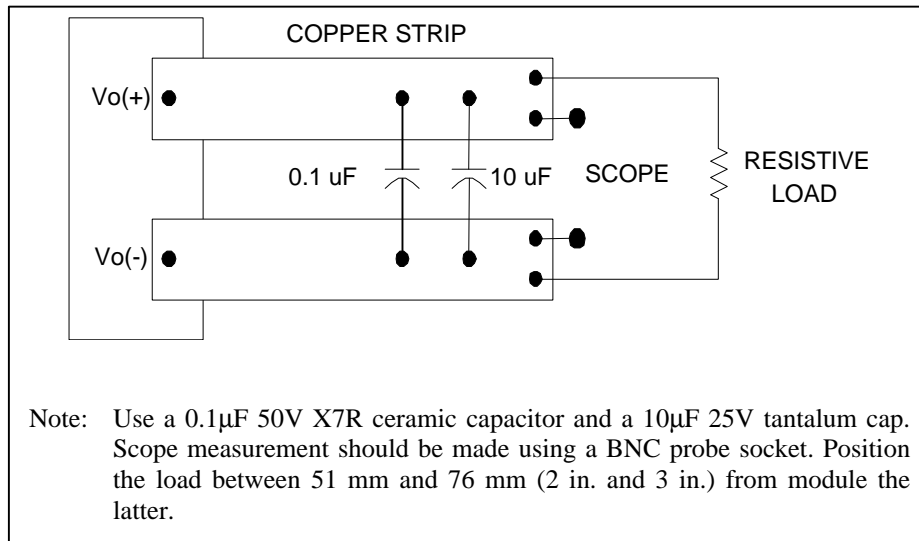

Figure 2. Peak to Peak Output Noise Measurement Setup.
- See Figure 2 for the Output Ripple test measurement setup.